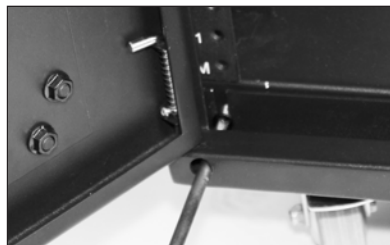

Fig. 10
Step 7: Tighten bottom screws while squaring bottom of Door Frame. (Fig. 10).